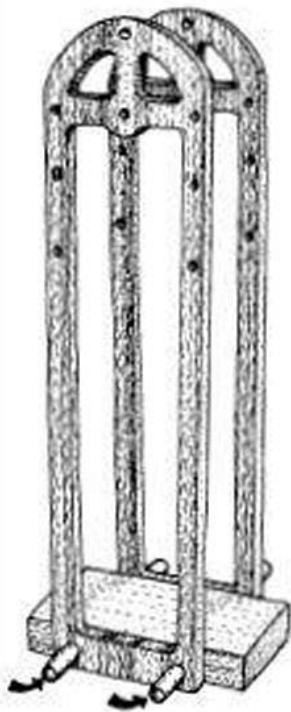

FIGURE 13-4
- 8** Cut the base slab to size, and have a trial fitting of the two main plates (Fig 13-4). Pencil label the undersides of the base slab and the inside faces of the frames so you can fit everything back in the same position.
2 Start by pegging the frames at either side of the base slab, as in our original tryout stage (Fig 13-4).